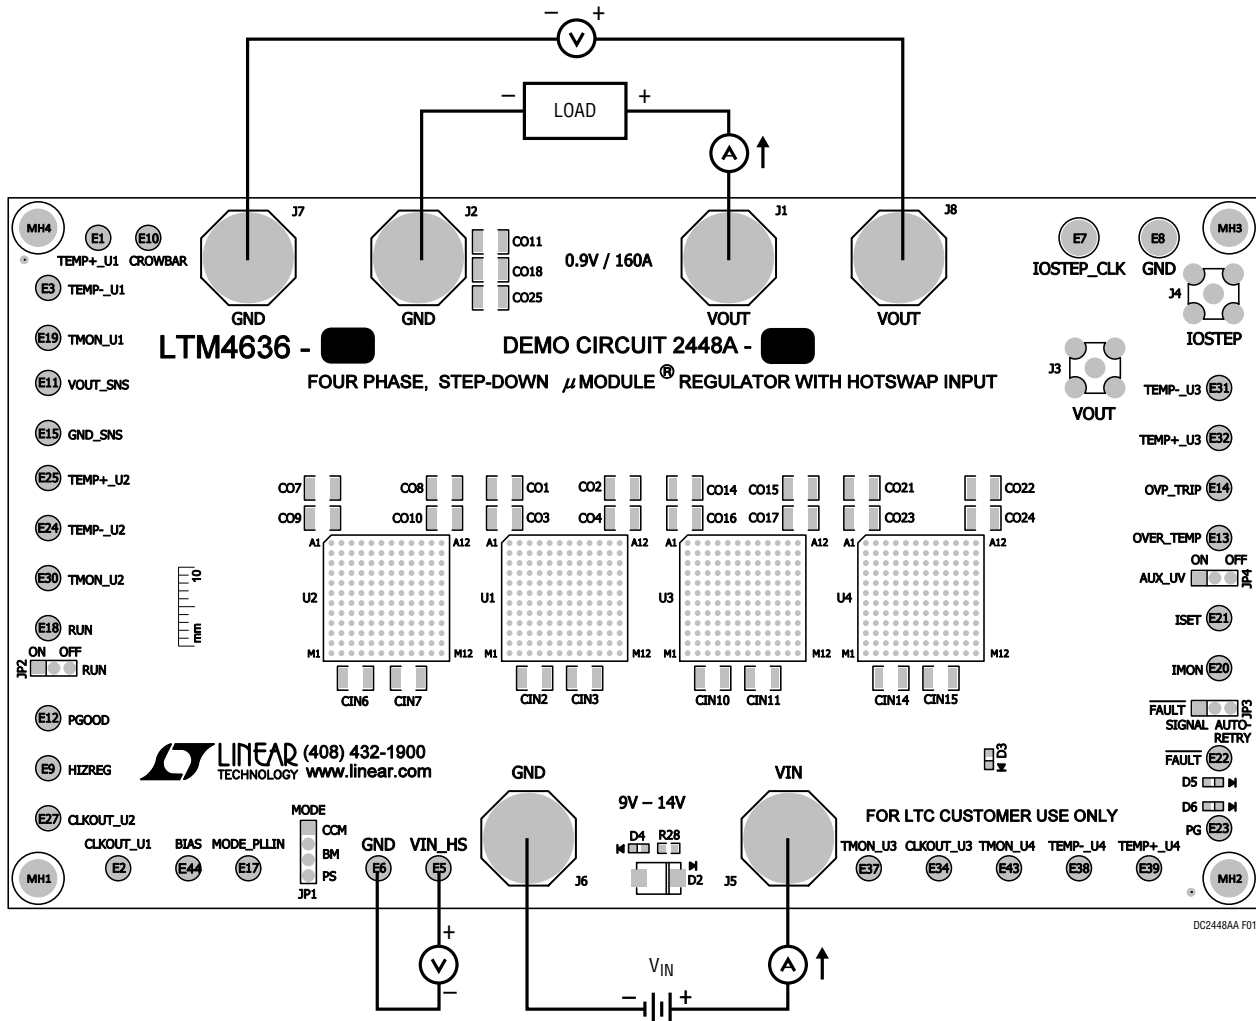

Figure 1. Measurement Setup of DC2448A-A
Demonstration circuit DC2448A-A is an easy way to evaluate the performance of PolyPhase operation of the LTM4636EY. Due to the high input/output current, the user should select the proper input supply/load/cable which can sustain the full load operation. Please refer to Figure 1 for proper measurement equipment setup and follow the procedure below:
- With power off, connect the input power supply, load and meters as shown in Figure 1. Preset the load to 0A and V_{IN} supply to 12V.